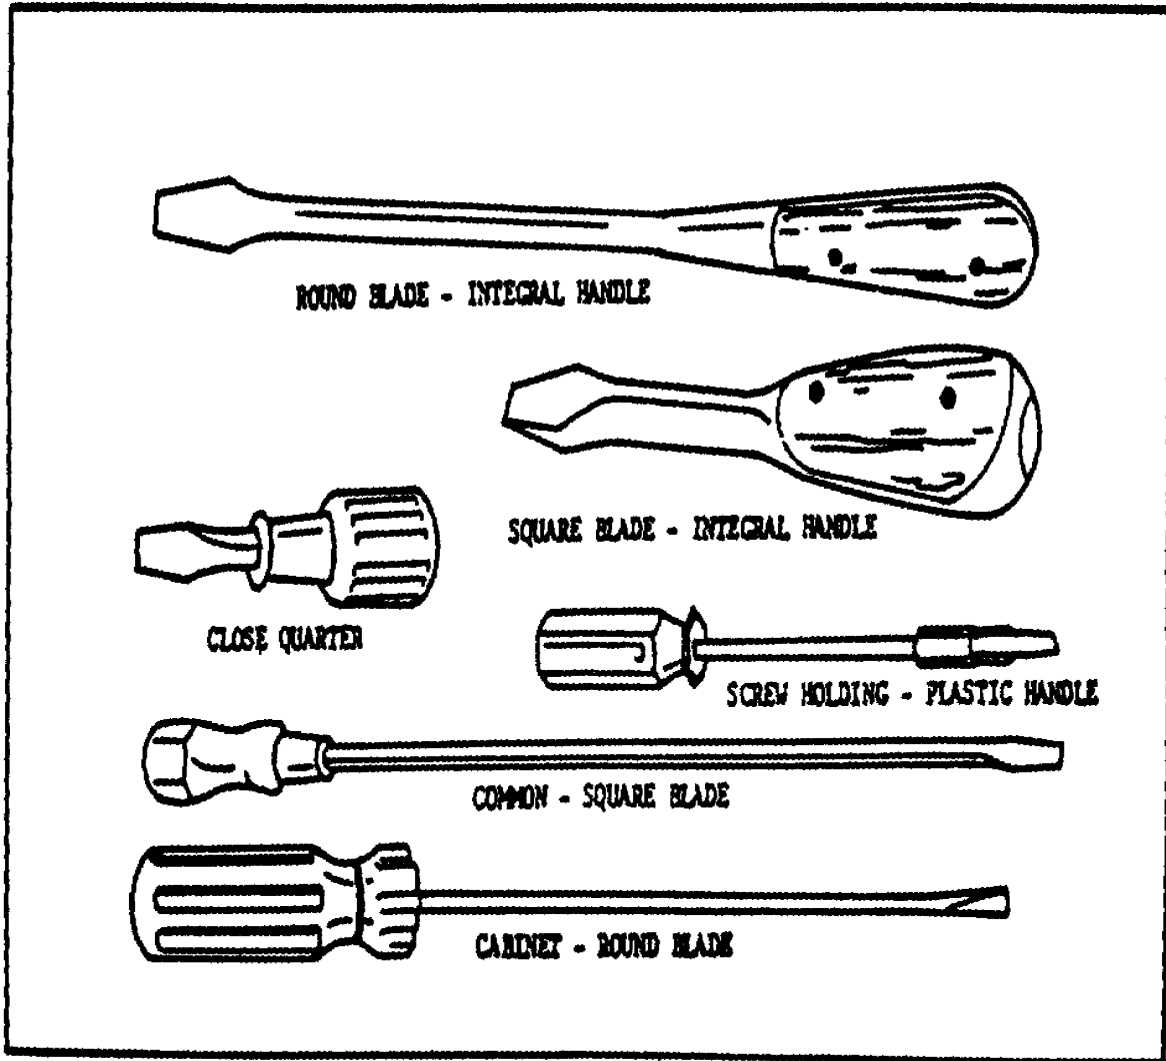
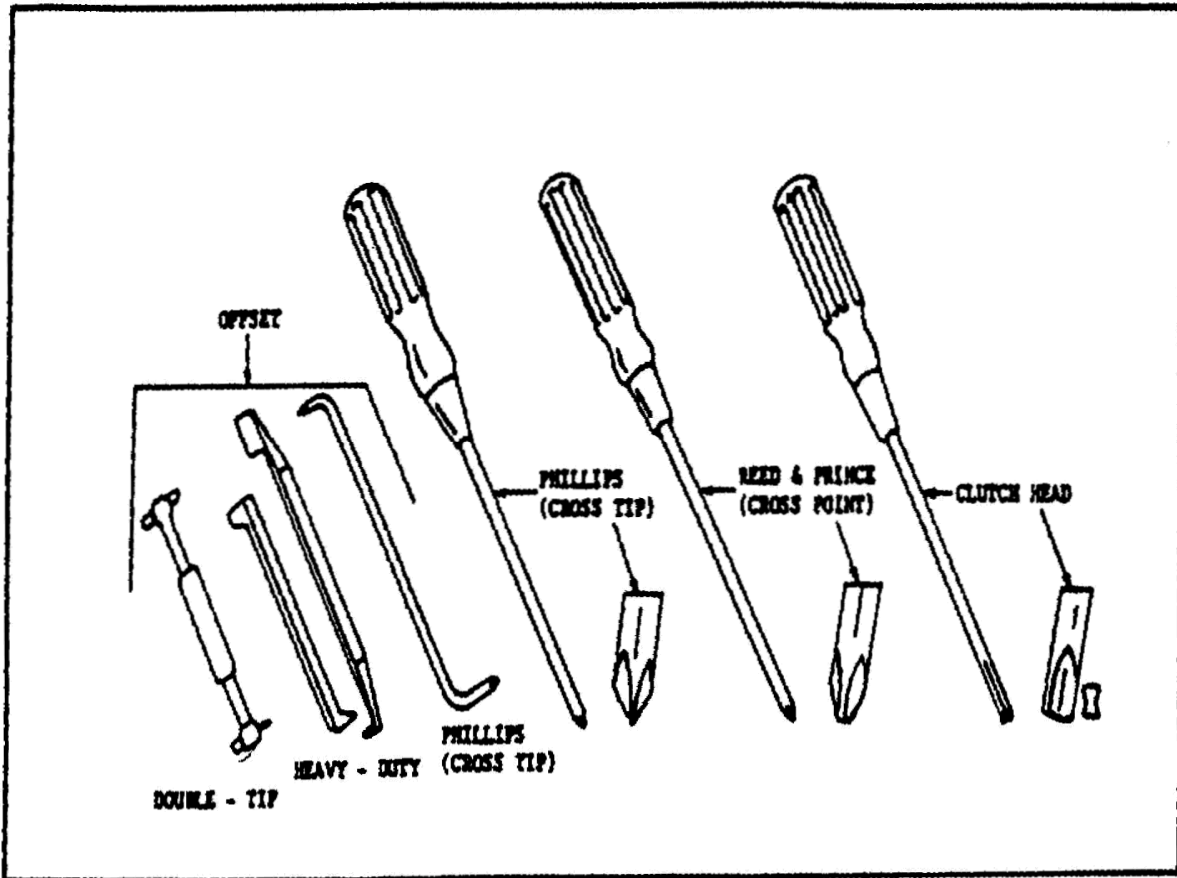

FIGURE 8. COMMON FLAT-TIP SCREWDRIVER.
FIGURE 9. SPECIAL TIPPED SCREWDRIVER.
(2) *Common Screwdriver.* The common screwdriver (figure 8) has a round steel blade anchored in a wood or plastic handle. The blade is forged from alloy steel and tempered. The tip is flat, hot forged to size, and heat treated. Common screwdrivers are tapered to give maximum strength. Handles are made of hardwood or plastic composition, usually fluted for a good grip. The blade is anchored in the handle by two or more tongs on the end of the blade and, in the case of a wood handle, the blade is anchored by a pin or rivet through the ferrule, handle, and blade. Some handles are integral; that is, the blade forms an integral part of some of the outside surface of the
(3) *Phillips Screwdrivers (Cross-Tip)*. The tip of a Phillips screwdriver (figure 9) is shaped like a cross so that it fits into Phillips-head screws. Phillips-head screws have two slots which cross at the center. These screwdrivers are made with four different sized tips. Size 1 will fit No. 4 and smaller size Phillips screws; size 2 will fit Nos. 5 to 9 inclusive; size 3 will fit Nos. 10 to 16 inclusive; and size 4 will fit No. 18 and larger size Phillips-head screws. Phillips screwdrivers also have different length blades ranging from 1 inch to 8 inches.
(4) *Reed & Prince Screwdrivers (Cross-Point)*. Reed & Prince screwdrivers are similar to the Phillips type; however, do not confuse them, for the tip is different, as shown in figure 9. These screwdrivers are issued in 3 to 8 inch sizes.
(5) *Clutch-Head Screwdrivers*. Clutch-head screwdrivers (figure 9) are used to drive clutch-bit screws. These screws are commonly called butterfly or figure 8 screws and have recessed heads. The clutch-type screwdriver is issued in 3, 4, 5, and 6 inch sizes.
(6) *Offset Screwdrivers*. Offset screwdrivers (figure 9) are designed to drive or remove screws that cannot be lined up with the axis of common screwdrivers, or are located in tight corners. An offset screwdriver is usually made from a piece of steel, round or octagonal in shape, machined so that the end portion is at right angles to its longitudinal axis. They are made in a variety of sizes having different width tips. Some offset screwdrivers are made with two blades, one of different size at each end. A double-tip offset screwdriver has four blades.
(12) *Radio and Pocket Screwdrivers.* A radio screwdriver (not illustrated) has a round blade that is 1 1/2 inches long. The tip is 1/8 inch wide and the overall length is 3 1/4 inches. Its use is in the construction of radio chassis. The pocket screwdriver (not illustrated) is also small. It has a square blade that is 1 3/4 inches long, a 1/4 inch wide tip, and an overall length of 4 inches. It is similar to the close quarter screwdriver shown in figure 8.